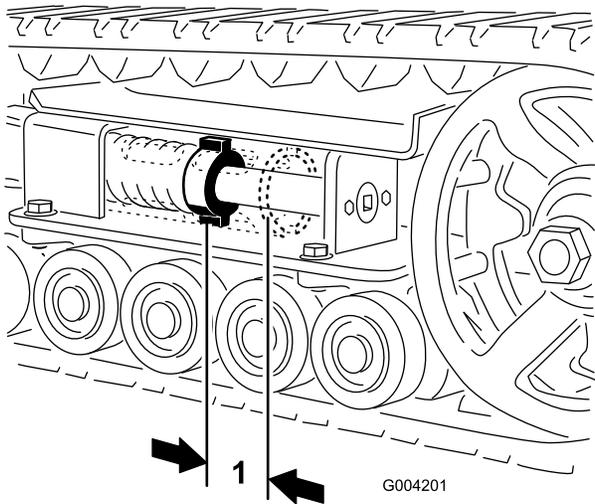

**Figure 47**
4. Remove the locking bolt and nut (Figure 47).
6. Align the closest notch in the tension screw to the locking bolt hole and secure the screw with the locking bolt and nut (Figure 47).
5. Using a 1/2-inch drive ratchet, release the drive tension by turning the tensioning screw clockwise (Figure 47 and Figure 48).
5. Using a 1/2-inch drive ratchet, release the drive tension by turning the tensioning screw clockwise (Figure 47 and Figure 49).